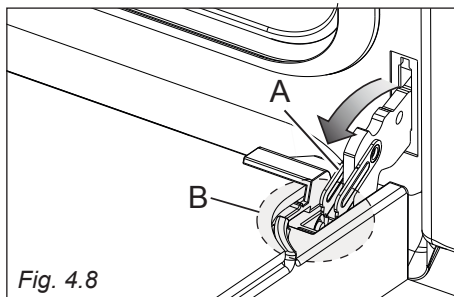

Fig. 4.8
- Open the lever "A" completely on the left and right hinges (fig. 4.8).
- Gently close the door until left and right hinge levers "A" are hooked to part "B" of the door (fig. 4.8).